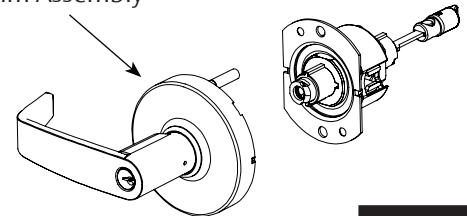

Figure 5
1. Remove trim assembly from the lockbody (See Figure 5).